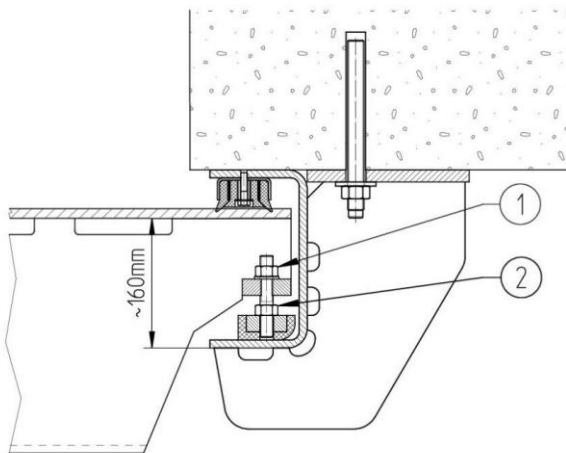

Fig. 14
Loosen the locking nut, pos.1 (Fig.14) and readjust the adjusting screw pos.2 accordingly.